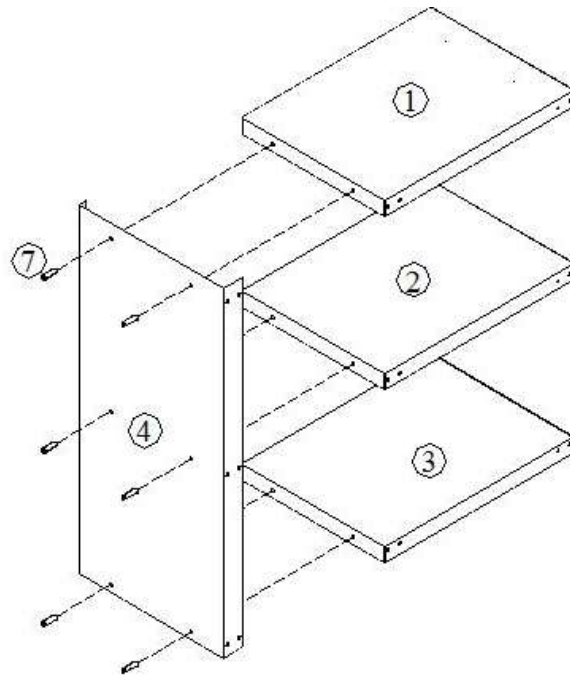

Figure 1
Assemble the pedestal by attaching the left side panel (4) to the top shelf (1), middle shelf (2) and bottom shelf (3) using the 6 of the enclosed sheet metal screws (7). As shown in Figure 1